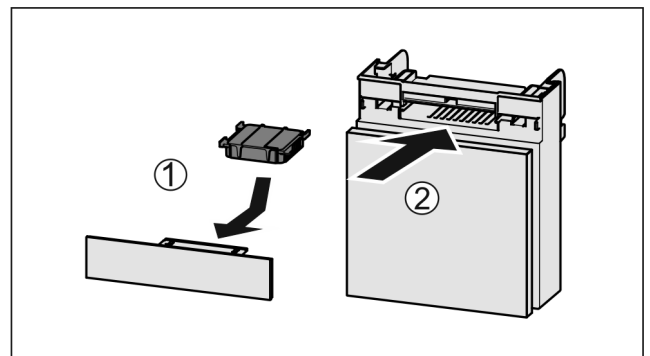

Fig. 159
- Insert the carbon filter as shown in the diagram Fig. 159 (1).
- Push the compartment in Fig. 159 (2).